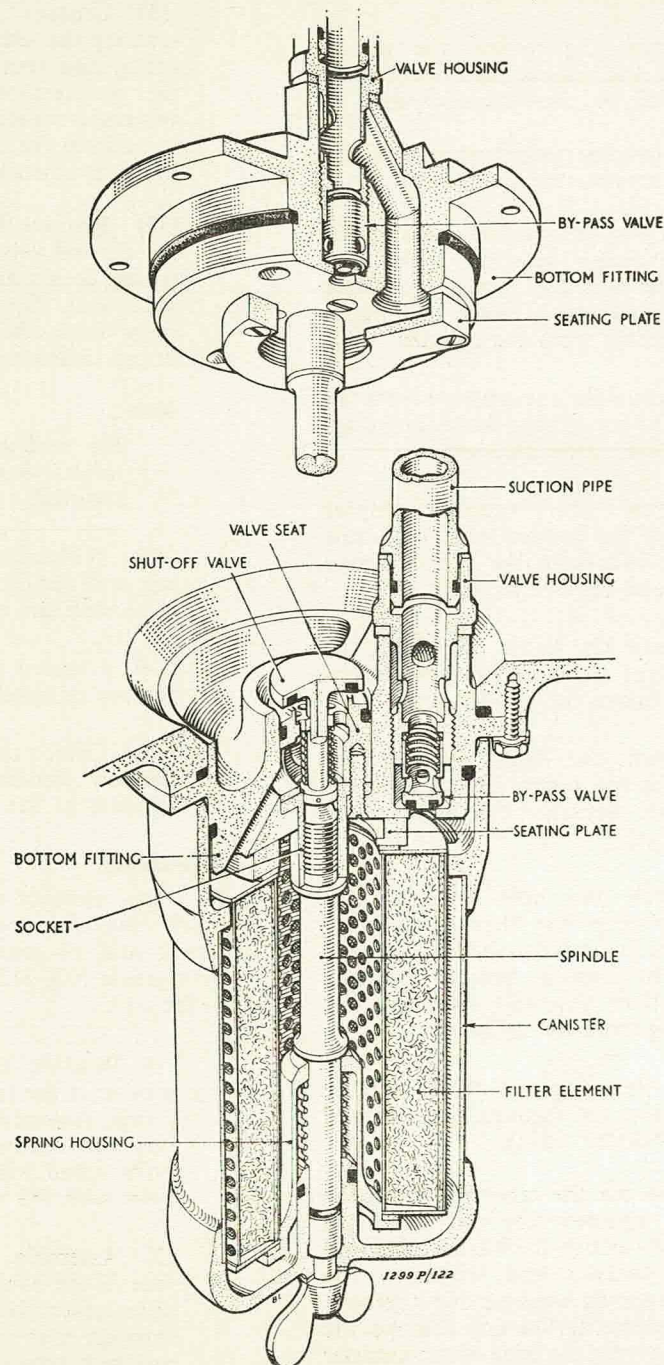

Fig. 2. Filter
7. The filter element (fig. 2), with a felt washer bonded to each end, is contained within a canister and clamped between a spring-loaded housing and a bottom fitting by a spindle. The spindle screws into a flanged socket located in the bottom fitting and the opposite end protrudes through a central boss in the canister end fitting. A wing nut is pinned to this end and a seal is located in the spindle shank.